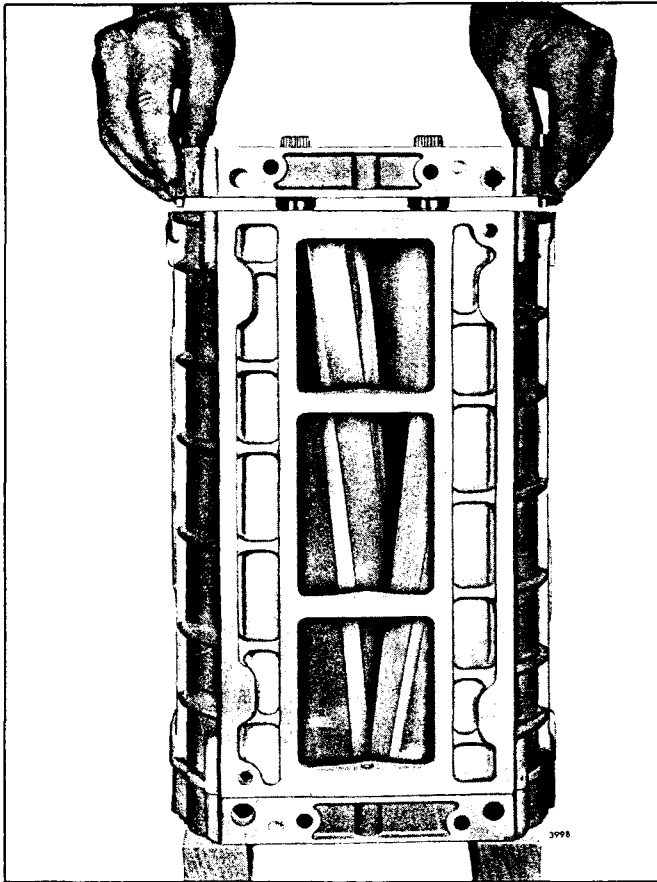

Fig. 15 · Installing Rear End Plate on Blower Rotors and Mounting
6. Position the blower housing over the rotors, rear end of housing up, with the bottom of the housing facing toward the bottom of the end plate (Fig. 15). Lower the housing over the rotors and start it straight on the dowel pins in the front end plate, then push it down tight against the end plate. If necessary, tap the housing lightly with a plastic hammer.
- d. Lower the end plate straight over the rotor shafts until the dowel pins in the end plate contact the blower housing (Fig. 15), then carefully work the dowel pins into the dowel pin holes in the housing